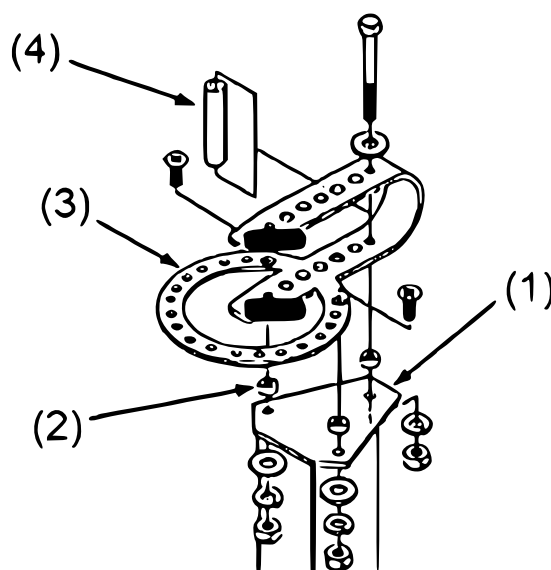

Figure 3: Fixing the bending support to the base
3. Place the two small spacers (6) on two of the upper-side holes of the foot/base, as shown in the figure.
4. Place the bending support (4) onto the small spacers, securing it with the help of the screws (5), washers (3, 7), and the nuts (8) according to Fig. 3 and exploded view.
5. Place the long distancer (1) between the two rear bores of the bending support and fix the entire assembly to the foot/base with the help of screws (2), washers (3, 7), and nuts (8).
6. Place the bow-type lever (15) between the flanges of the bending device and secure it with the long hinge pin (9).